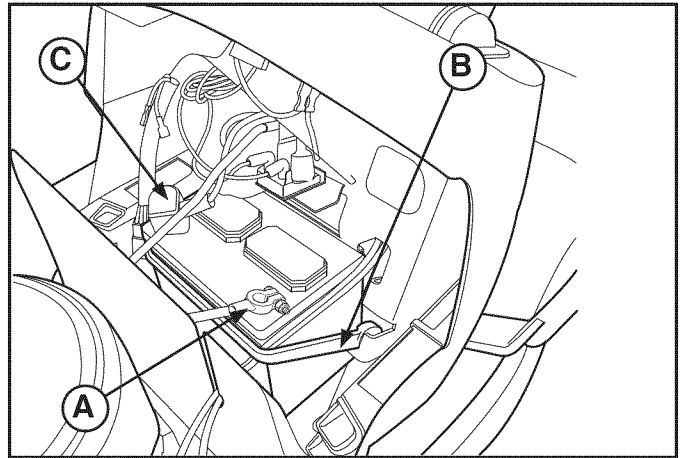

FIGURE 8
1. Disconnect the cable from the battery, negative cable first (**A**, Figure 8).